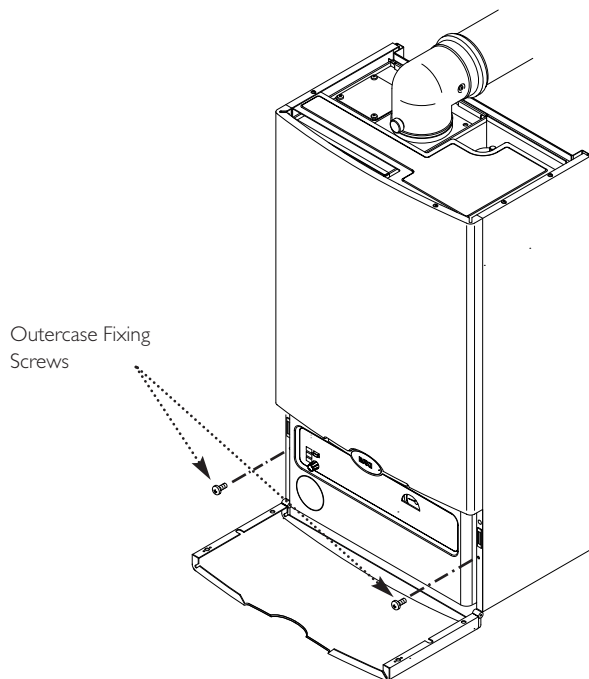

Fig. 39
2. Insert the two fixing screws into the sides of the chassis (Fig. 39).
3. Close the door against the retaining magnets (Fig. 39).